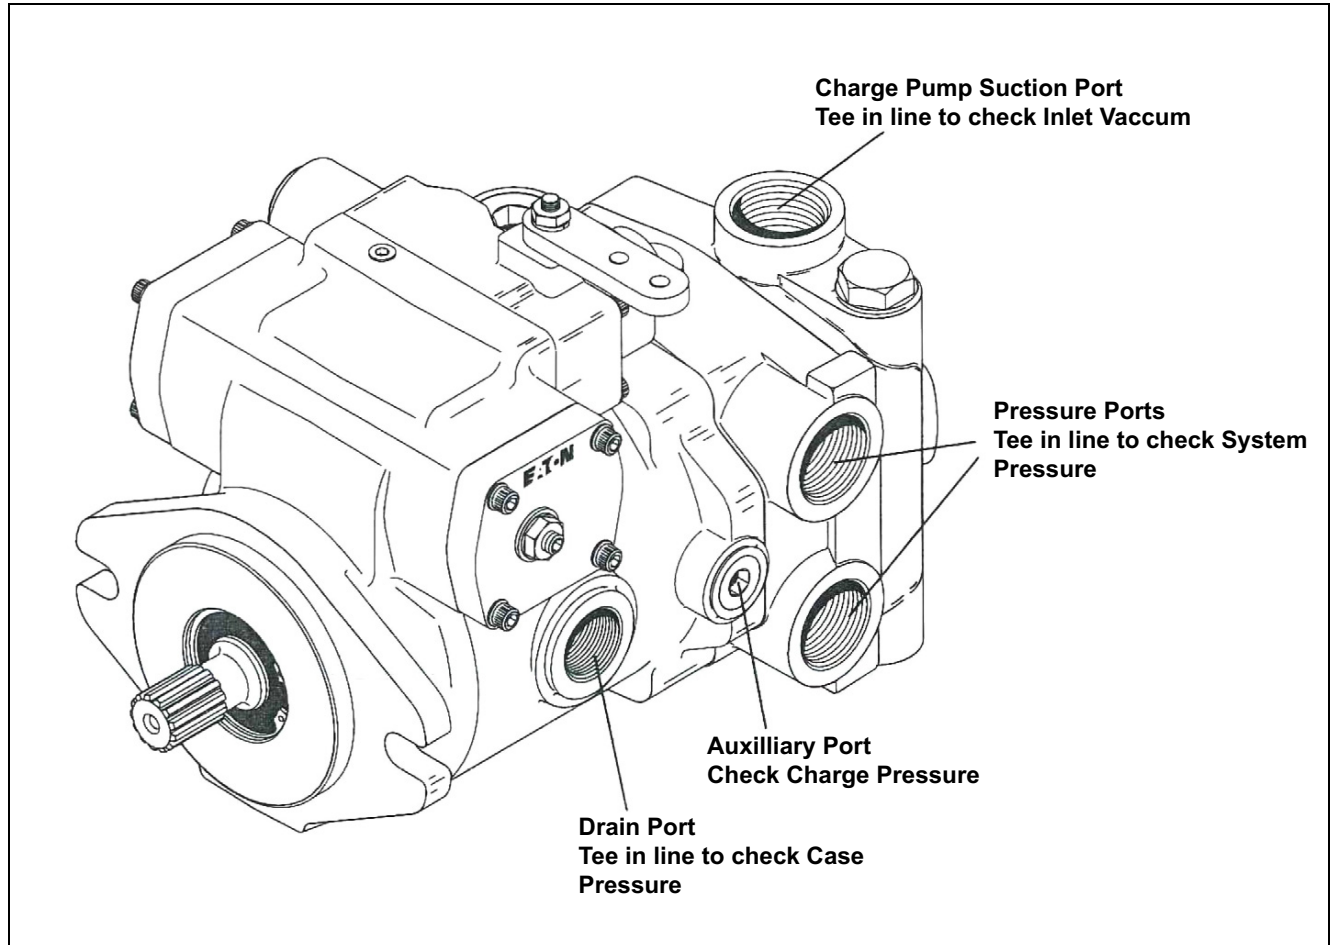

Figure 5-99. Gauge Locations
- a. See Figure 5-99. for location of pressure gauge installation
- a. See Figure 5-99. for location of charge pressure gauge installation